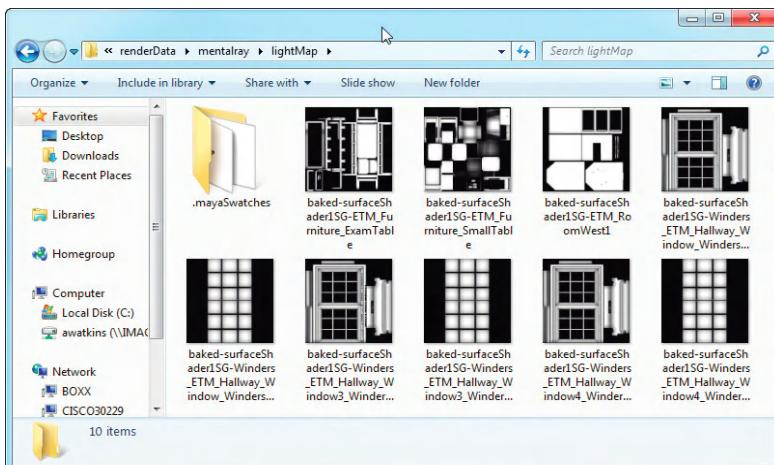

FIG 6.21 AO-baked textures.
Step 44: Track down the baked textures (Fig. 6.21). They will be within your project file in the path: Escaping the Madness/renderData/mentalray/lightMap. Open these files in Photoshop.